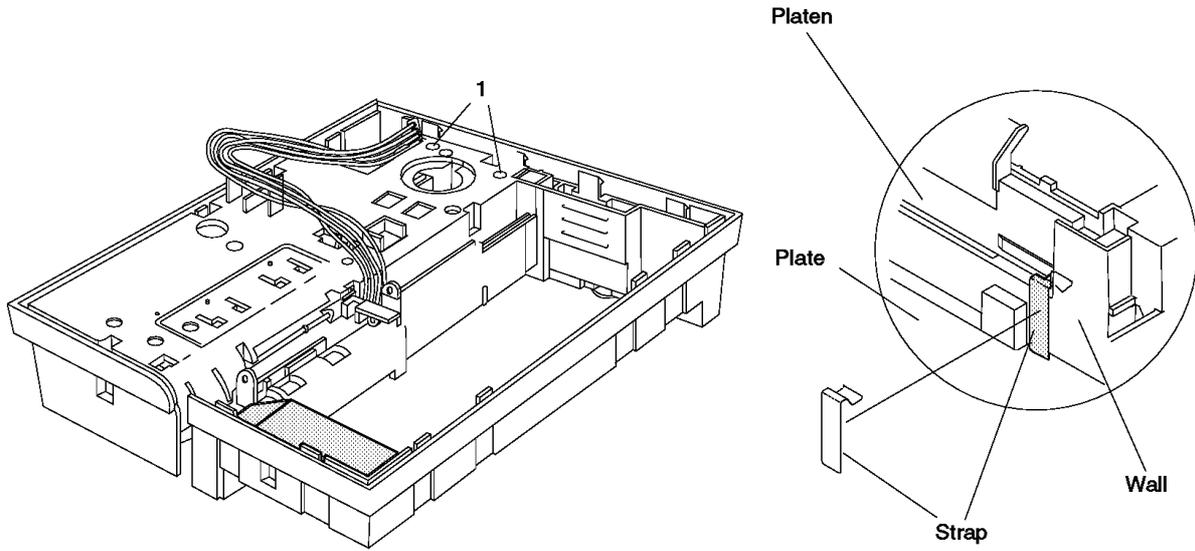

Figure E-8. Platen Grounding Strap
27. Remove the platen retainers (12).
28. Check to ensure that the platen grounding strap is properly seated. See Figure E-8 in topic E.2.2.
29. Hold the platen assembly (13) at the journal station and lift up until the top roller (14) can be removed.